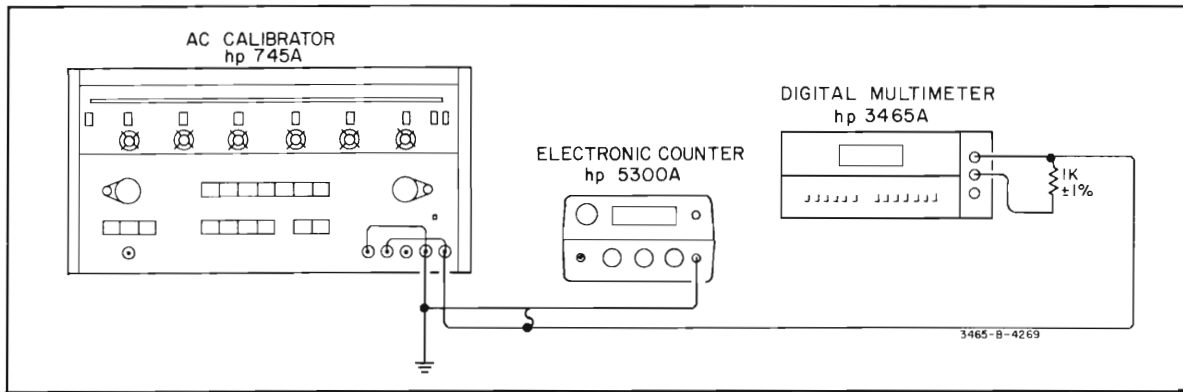

Figure 5-5. AC Effective Common-Mode Rejection Test.
c. Connect the AC Calibrator to the Multimeter as shown in Figure 5-5.